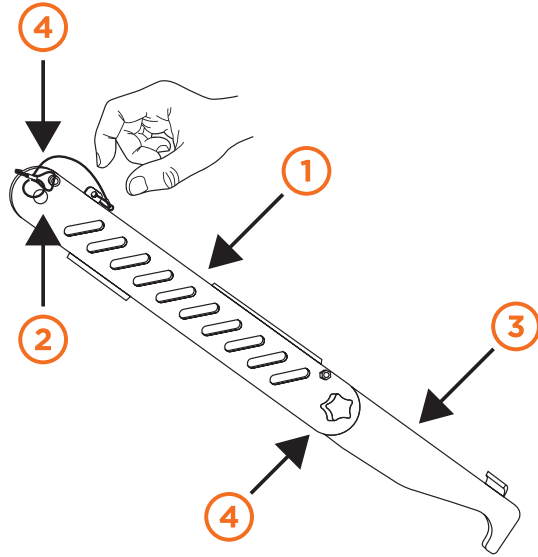
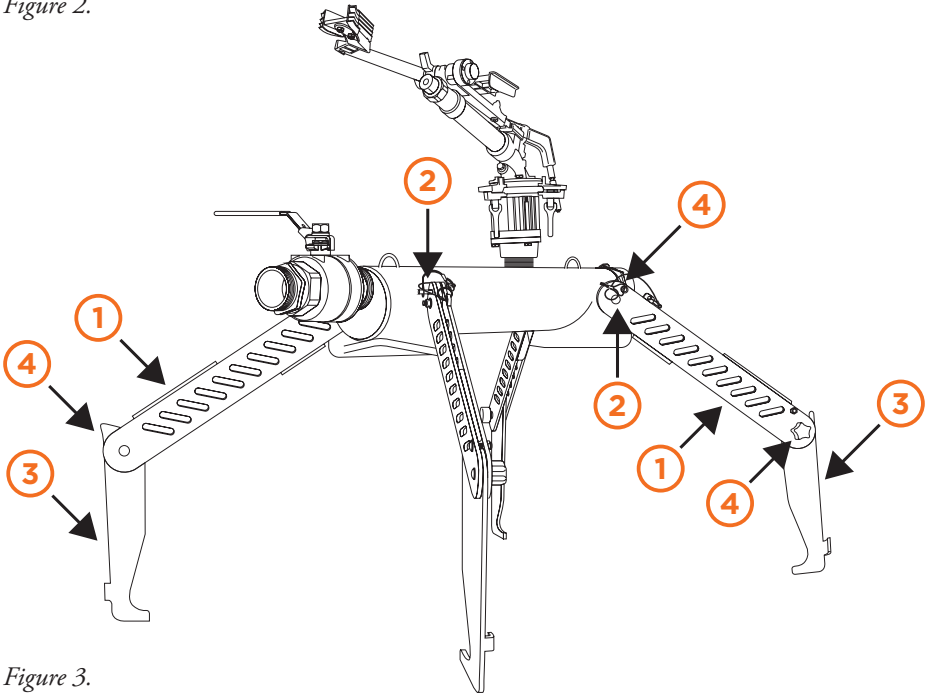

Figure 2.
Figure 3.
- Starting from either end of the unit (inlet or outlet) lift the entire assembly up with one hand. Legs should naturally drop down into position. Rotate legs to an angle to the ground while keeping steady pressure on the pins ②, *Figure 2*.
- Do this for all legs ①.
- Legs ③ may be additionally deployed in rough or unstable, or asphalt or cement surfaces to increase friction, *Figure 3*.
- Twist knob ④ to tighten legs in place.